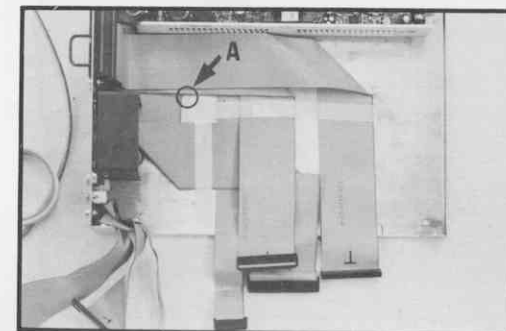

Figure 49 Long Tape Cable on Trace E (1/2" Tape System)
4.26 Fold the long tape control cable along trace E and tape it in place as shown in Figure 49. Be sure to leave 1/4" clearance around the card cage mounting hole in the bottom of the chassis.